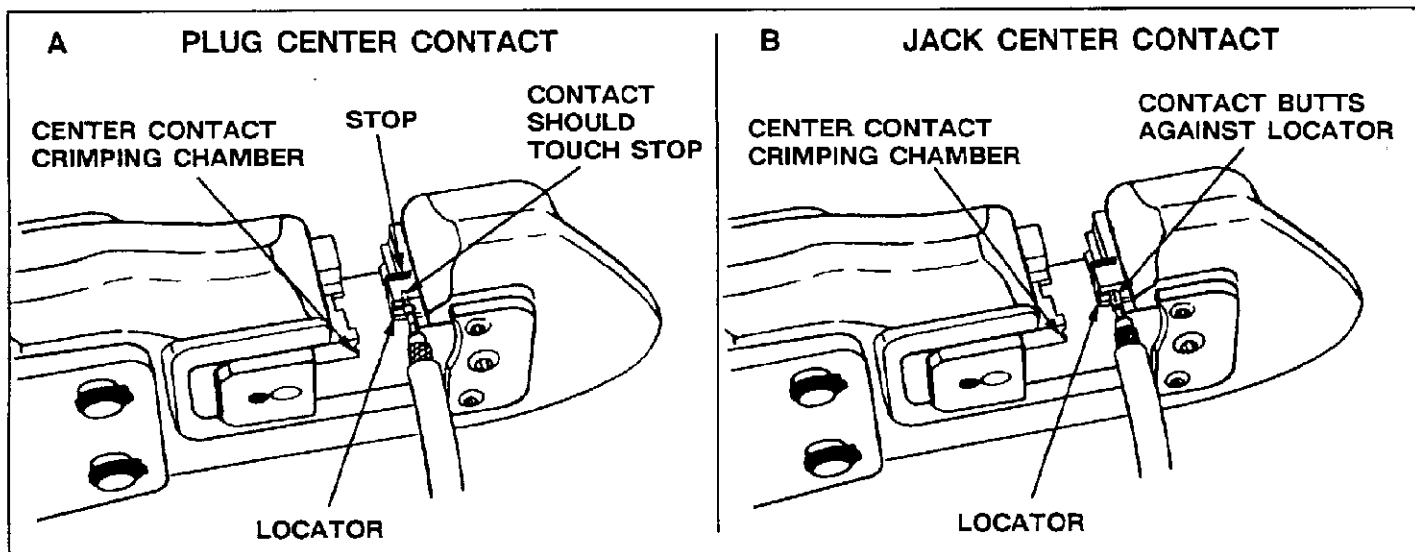

Fig. 4
- a. Plug Center Contact — Place the plug center contact through the locator and against the stop. The crimp area of the center contact should be in the crimping chamber on the stationary die. See Figure 4,A.
- b. Jack Center Contact — Position the jack center contact against the locator. The crimp area of the center contact should be in the crimping chamber on the stationary die. See Figure 4,B.